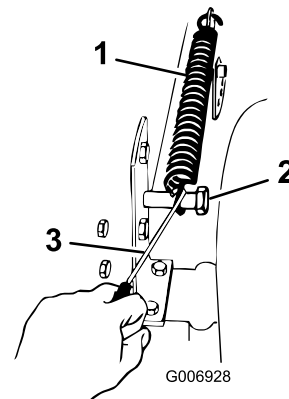

Figure 37
5. Remove the height-of-cut lift assist spring from the retaining bolt (Figure 37). The spring is between the frame and the right rear wheel.
13. Move the height-of-cut lever into the "D" notch. Hook the lift assist spring onto the retaining bolt for storage (Figure 37).